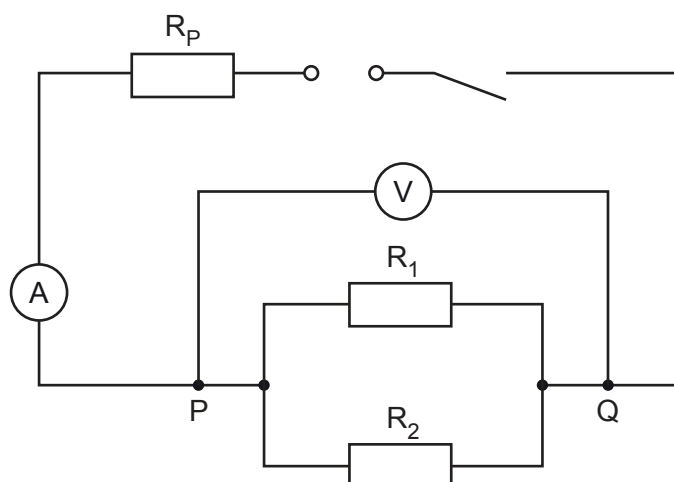

Fig. 3.1
- (iv)** Sufficient connecting leads to set up the circuit shown in Fig. 3.1 plus two spare leads.
- 1 The circuit is to be set up for candidates as shown in Fig. 3.1. Candidates must be able easily and quickly to disconnect and connect circuit components. The voltmeter must be connected to terminals labelled 'P' and 'Q' as shown in Fig. 3.1. The switch must be open.
Connect the circuit as shown in Fig. 3.1 and check that the circuit is working.